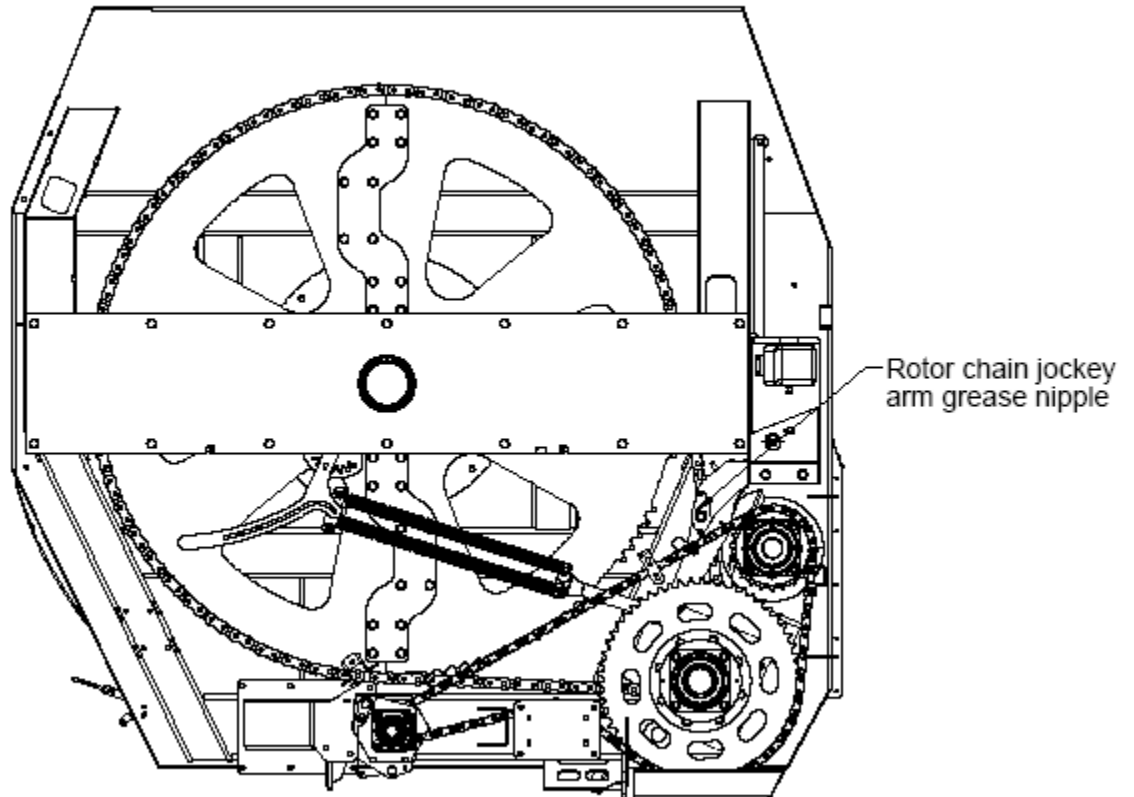

Figure 12. Tension arm grease nipple points
- c. 3 nipples, one on each chain tension arm, figure 12.